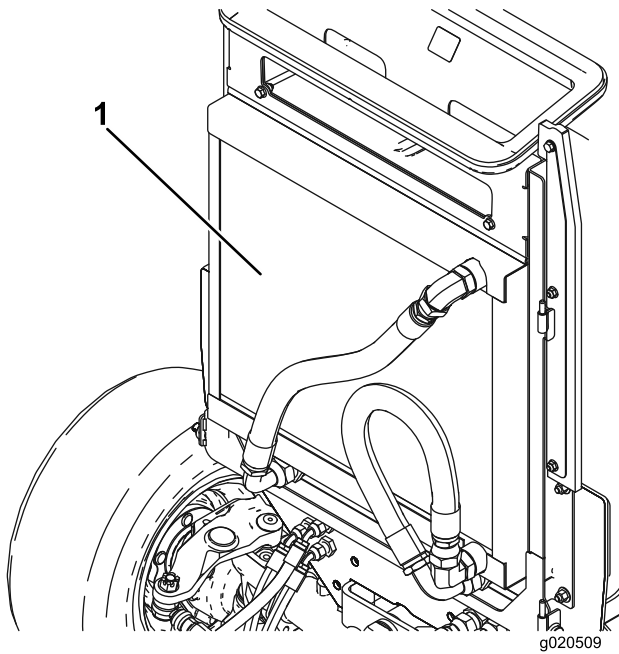

Figure 63
3. Thoroughly clean both sides of the oil cooler and the radiator (Figure 63) with compressed air. Start from the front and blow the debris out toward the back. Then clean from the back side and blow toward the front. Repeat procedure several times until you remove all chaff and debris.